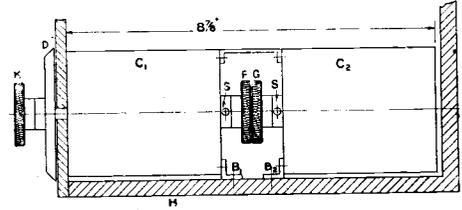

Fig. 6. The double tuning condenser.
0.001 $\mu$ F maximum capacity. In order to reduce the tuning operations when using this set, these two condensers should be coupled together so that they can be controlled by a single knob. This was done by providing an insulating coupling between the two condenser spindles as sketched in Fig. 6. The vertical ebonite panel on which the whole set is assembled, is secured to the horizontal base of the instrument H of 5/16 in. wood. This base should be 9 1/2 ins.
screws S S (Figs. 6 and 7) screwed hard on to the spindles. By loosening one of these screws it is possible to adjust the movable vanes of one condenser relative to the